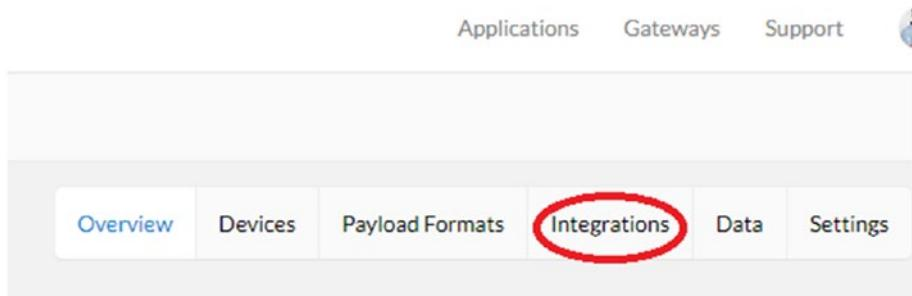

Figure 8-22. Accessing integrations from the top navigation menu
1. In the Things Network Console, in the GPS tracker application section, click Integrations (Figure 8-22).